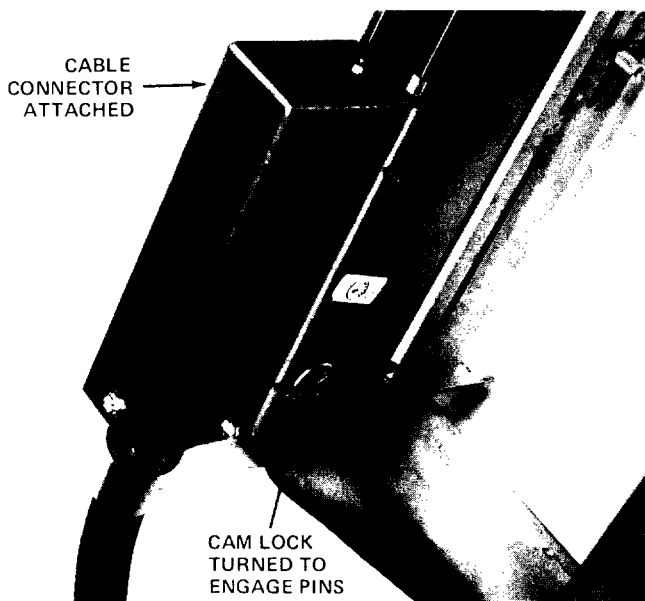

Figure 131. Cable Connector, Showing Locking Cam
12. When properly inserted, the connector should be able to be locked into place by the locking cam provided (Figure 131.) without excessive force. If receptor pins do not easily mate with receptacle in W600 cable, realign W600 connector slightly.